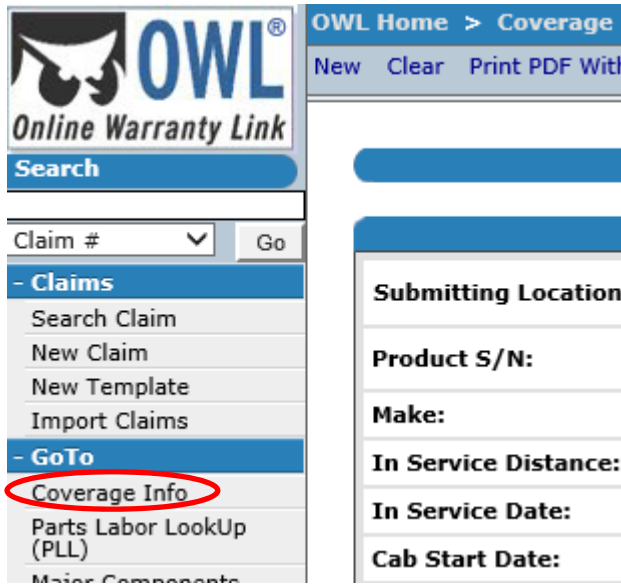

Figure 1
3. Go to OWL and select “**Coverage Info**”. See Figure 1.